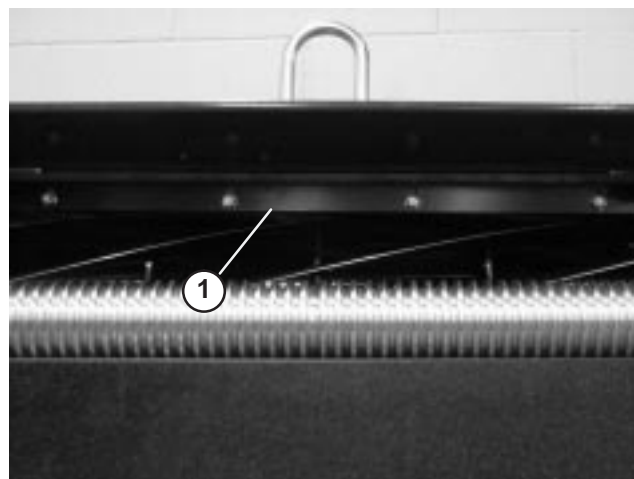

Figure 16
1. Loosen screws securing top bar (Fig. 16) to cutting unit.